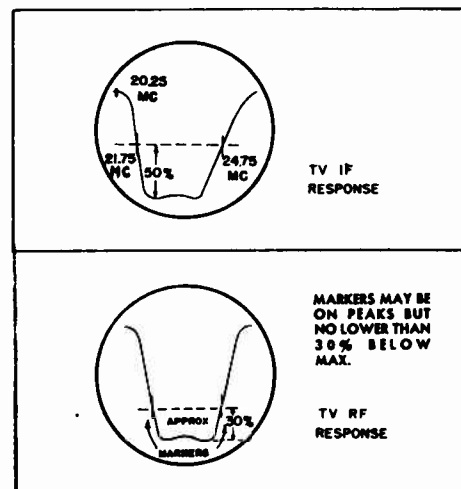

FIG. 5. RECOMMENDED RESPONSE CURVES.
13. Feed I-F Sweep, and observe response on 'scope. (See Fig. 5.) Use marker frequencies 20.25, 21.75 and 24.75 MC.
14. If response does not approximate that shown in Fig. 5, repeat steps 4 to 9, making sure that frequencies are precise, and that the Signal Generator output voltage is kept low. Continue with steps 10 to 13. A slight touch-up of individual slugs may be required to approximate the recommended curve of Fig. 5.